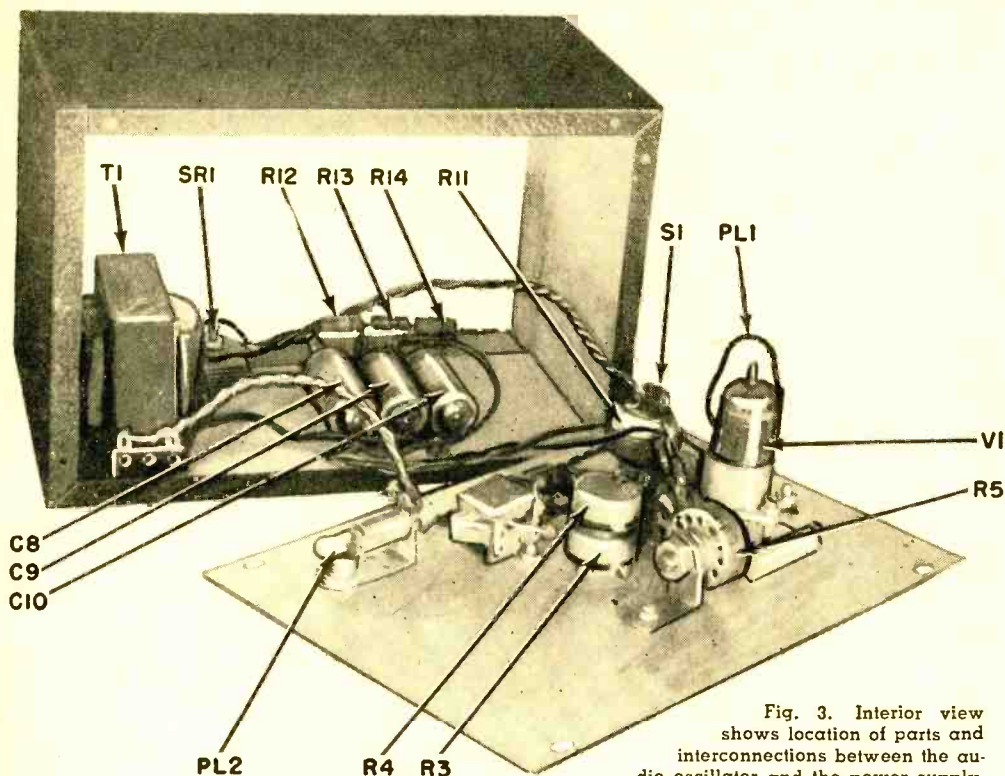

Fig. 3. Interior view shows location of parts and interconnections between the audio oscillator and the power supply.
All leads in the oscillator portion of the circuit must be kept as short and rigid as possible. Connections between the oscillator and power supply may be seen in Fig. 3. The 6.3-volt filament line consists
After the wiring has been checked as correct, the first step will be adjustment of potentiometer *R5*. This is done in the following manner: (1) With the box open as shown in Fig. 3, connect the output terminals to the vertical amplifier input of an oscilloscope. (2) Set the oscilloscope controls for internal sweep and internal sync. (3) Connect both instruments to the power line and switch them on. (4) Set the oscillator dial to its extreme counter-